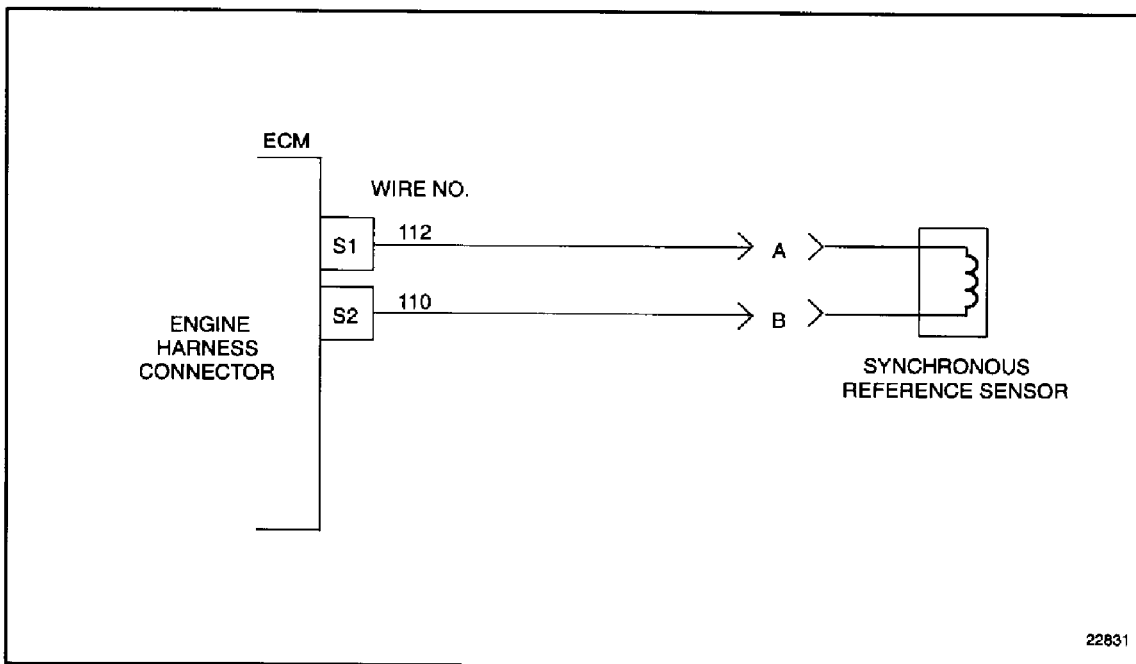

Figure 41-6 Engine Harness Connector to Synchronous Reference Sensor
1. Check terminals at the TRS (both the TRS and harness side) for damage: bent, corroded, and unseated pins or sockets. See Figure 41-6.